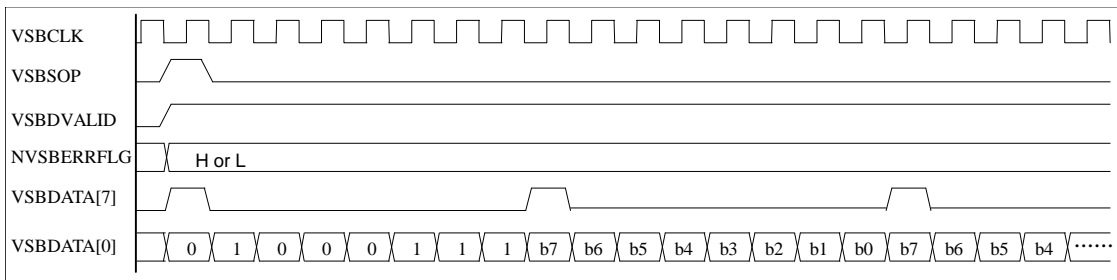

Figure 6.6.14 I/F to Transport Demultiplexer at Serial Output Mode
- 3) the VSBDATA[6:1] signals are set to “000000”. See Fig. 6.6.14.